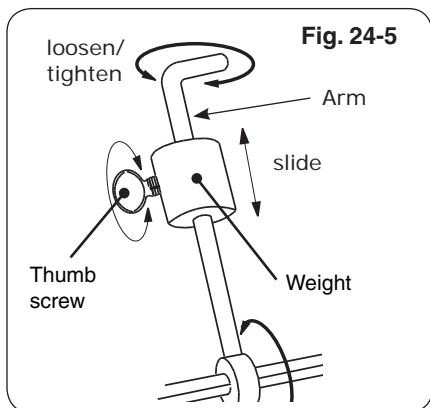
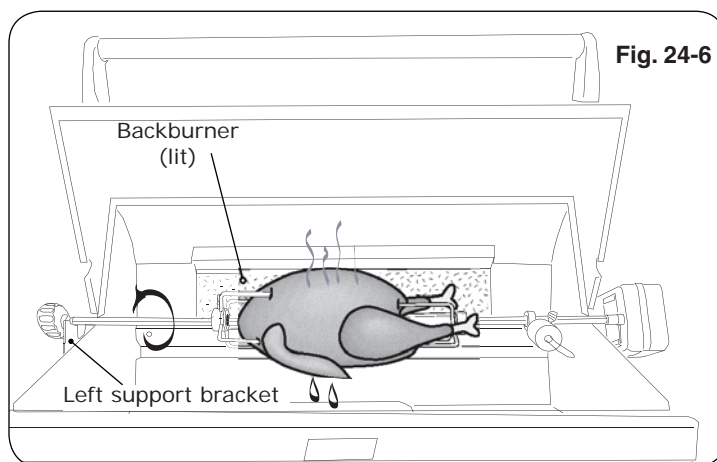

Fig. 24-5
Fig. 24-6
9. Slide the counterbalance weight up or down the arm until the rod rotates most evenly then tighten thumb screw (Fig. 24-5 and Fig. 24-6).